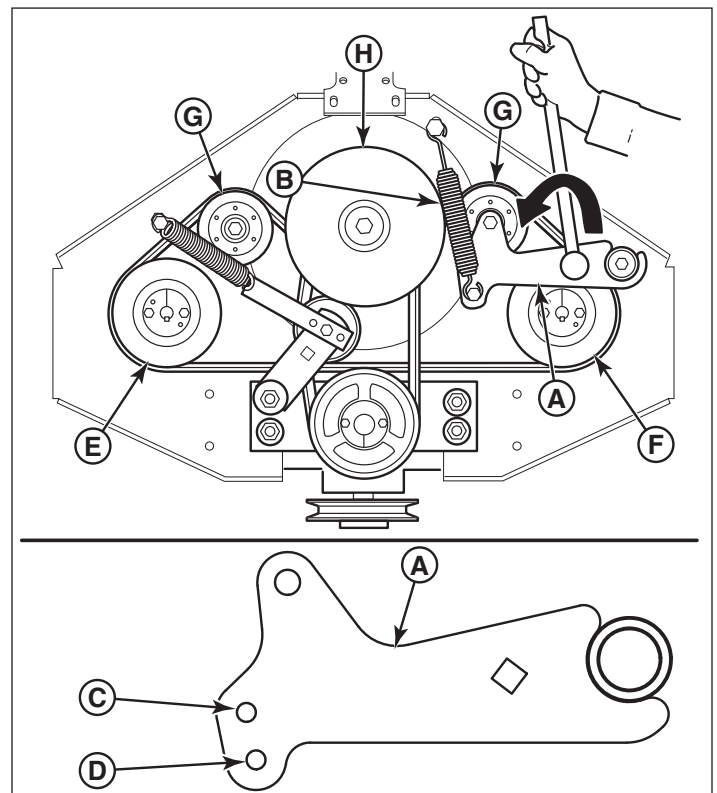

Figure 1. Inspecting the Idler Arm
4. Observe the hydro drive idler arm (**A, Figure 1**) and tensioning spring (**B**).
- If the spring is installed in the **upper hole (C)** of the hydro drive idler arm, the spring is **not installed correctly**, perform the *Correction* procedure.
- If the spring is installed in the **lower hole (D)** of the hydro drive idler arm, the spring is **installed correctly** continue with step #6.
1. Using a 1/2" breaker bar, place the square end in the square hole located in the idler arm (**A, Figure 1**). Carefully rotate the breaker **counter-clockwise** which will relieve the tension on the belts exerted from the idler arm.
- Carefully rotate the idler arm with the breaker bar **counter-clockwise**. While holding the breaker bar firmly, install the belts in the grooves of the left hand and right hand pump drive pulleys (E & F, Figure 1).
- Inspect the belt path to make sure that both belts are properly seated in the grooves of the pump drive pulleys (E & F), the idler pulleys (G), and that the back side of the belt contacts the face of the crankshaft pulley (H).